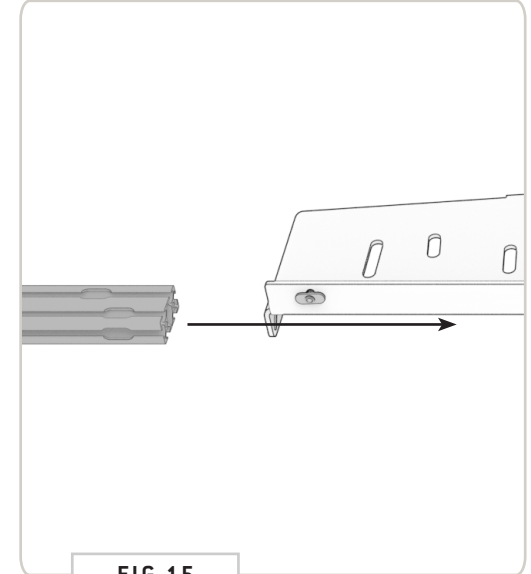

FIG 15
5.2 Crossbar Install: Now, slide the **Crossbar** onto the **Crossbar Fairing Bracket**. You'll have to straighten each **T-Nut** as you go to get it to feed into the crossbar correctly (**FIG 15+16**).